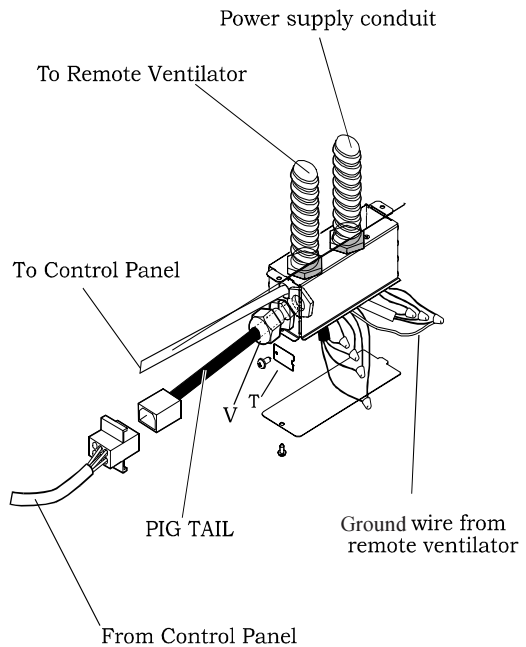

Figure 13
1. Remove the j-box cover as shown in Figure 13.